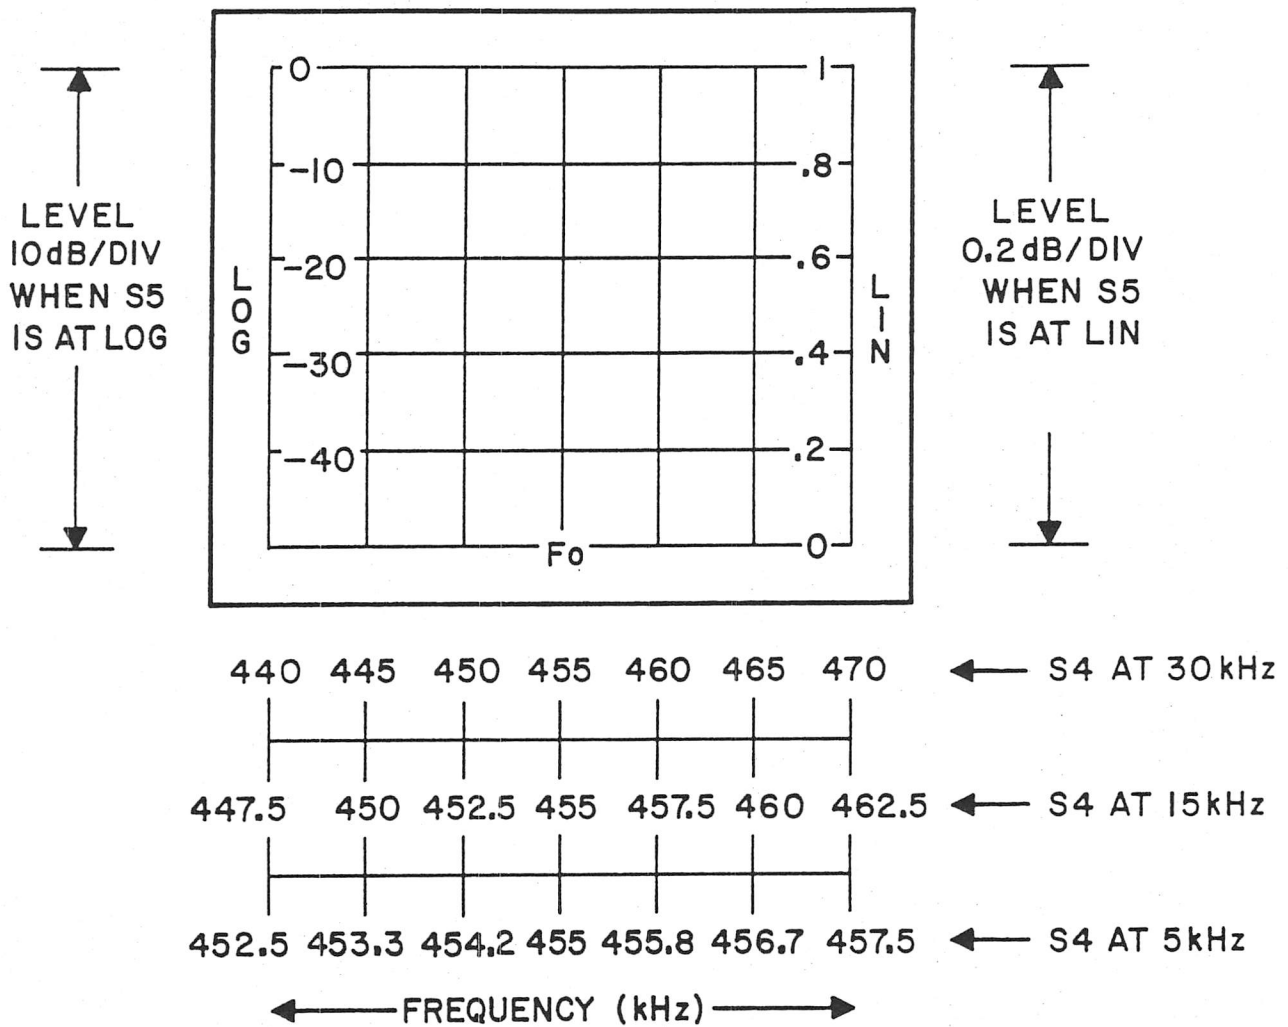

Figure 2-3. Display Graticule Scales
2.4.9 DISPLAY GRATICULE - As shown in Figure 2-3, each vertical display graticule division represents approximately 10 dB of signal strength when LOG/LINEAR switch S5 is in the LOG position, or approximately 0.2 dB of signal strength when S5 is in the LIN position.